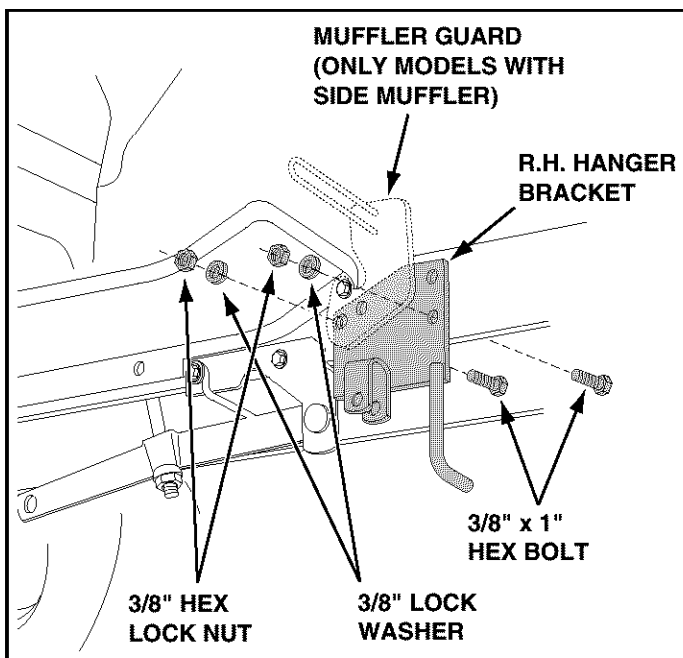

FIGURE 4 **RIGHT SIDE VIEW**
- Assemble the R.H. hanger bracket to the bottom hole where the mower stop bracket was removed and to the bottom hole under the front of the foot rest. Fasten with two 3/8" x 1" hex bolts, 3/8" lock washers and 3/8" hex lock nuts. (On tractors with muffler guards, slide the hanger bracket between the guard and the tractor frame.) See figure 4.